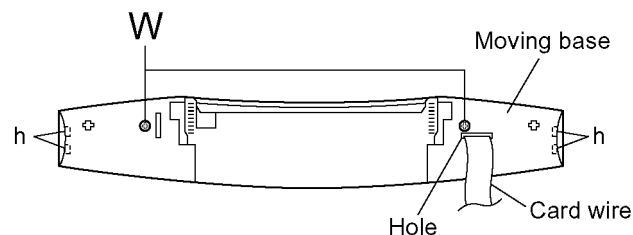

Fig.2-19
- Before attaching the moving base, pass the card wire of the front board through the hole on the moving base. (See Fig.2-19.)